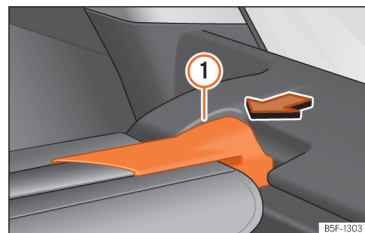

Fig. 179 In the luggage compartment: remove the shelf.
- Press the rear shelf support »»» **Fig. 179** ① in the direction of the arrow.
- Engage the support of the rear shelf >>> **Fig. 179** ① into the housing on the other side.